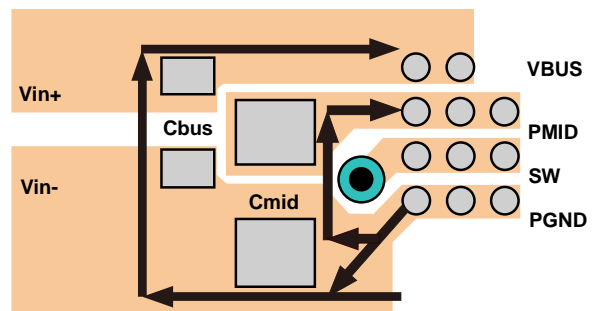

Figure 40. Input capacitor position and PCB layout example
5. Place $22\mu\text{F}$ input capacitor as close to PMID pin and PGND pin as possible to make high frequency current loop area as small as possible. Place $1\mu\text{F}$ input capacitor as close to VBUS pin and PGND pin as possible to make high frequency current loop area as small as possible (see Figure 40).